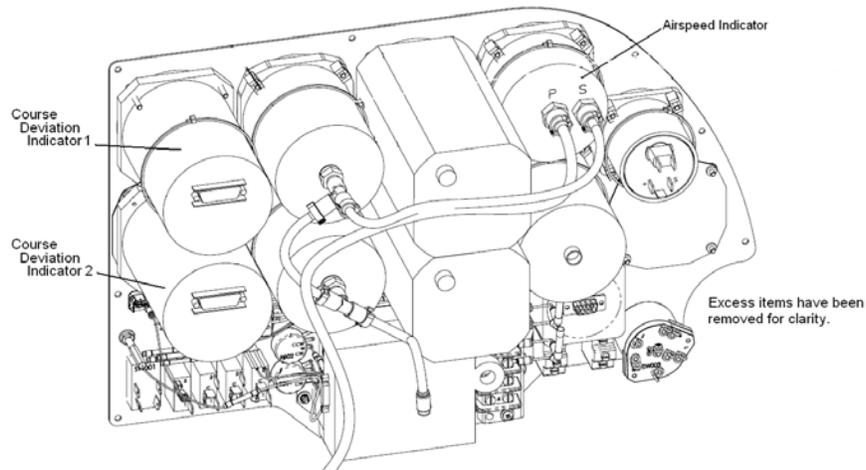

Figure 34-26 Rear View of the instrument Panel Showing Location of the Airspeed Indicator
6. Disconnect static line (green) and the pitot line (purple), from the airspeed indicator. See Figure 34-26 for location of the airspeed indicator and the green static line.